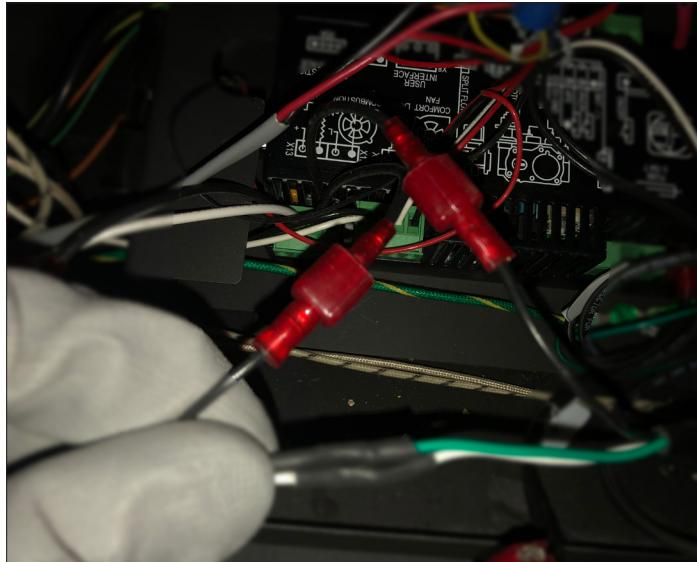

Figure 4.7, Quick Connections to Black Leads
4. The power vent wire harness has the black hot wire split with two female quick connections on either end. Plugs these into the black leads that have quick connections coming off the control module in the X12 combustion blower location. See Figure 4.7.